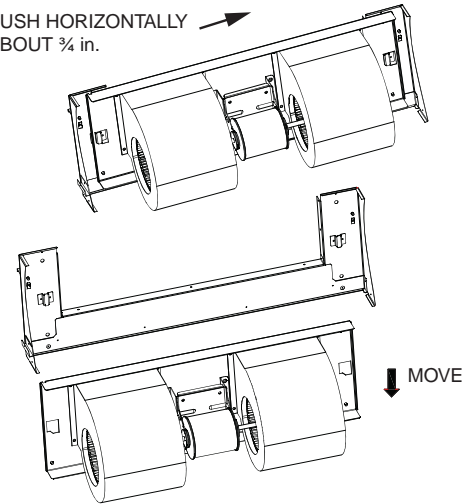

Fig. 20 — Detaching Fan Motor Assembly from Front Panel (Unit Size 048)
4. To separate the fan motor assembly from the front panel, push the assembly horizontally about $\frac{3}{4}$ in. as shown in Fig. 20.
5. Slightly lift and push the fan motor assembly downwards to detach it from the front panel. See Fig. 20.